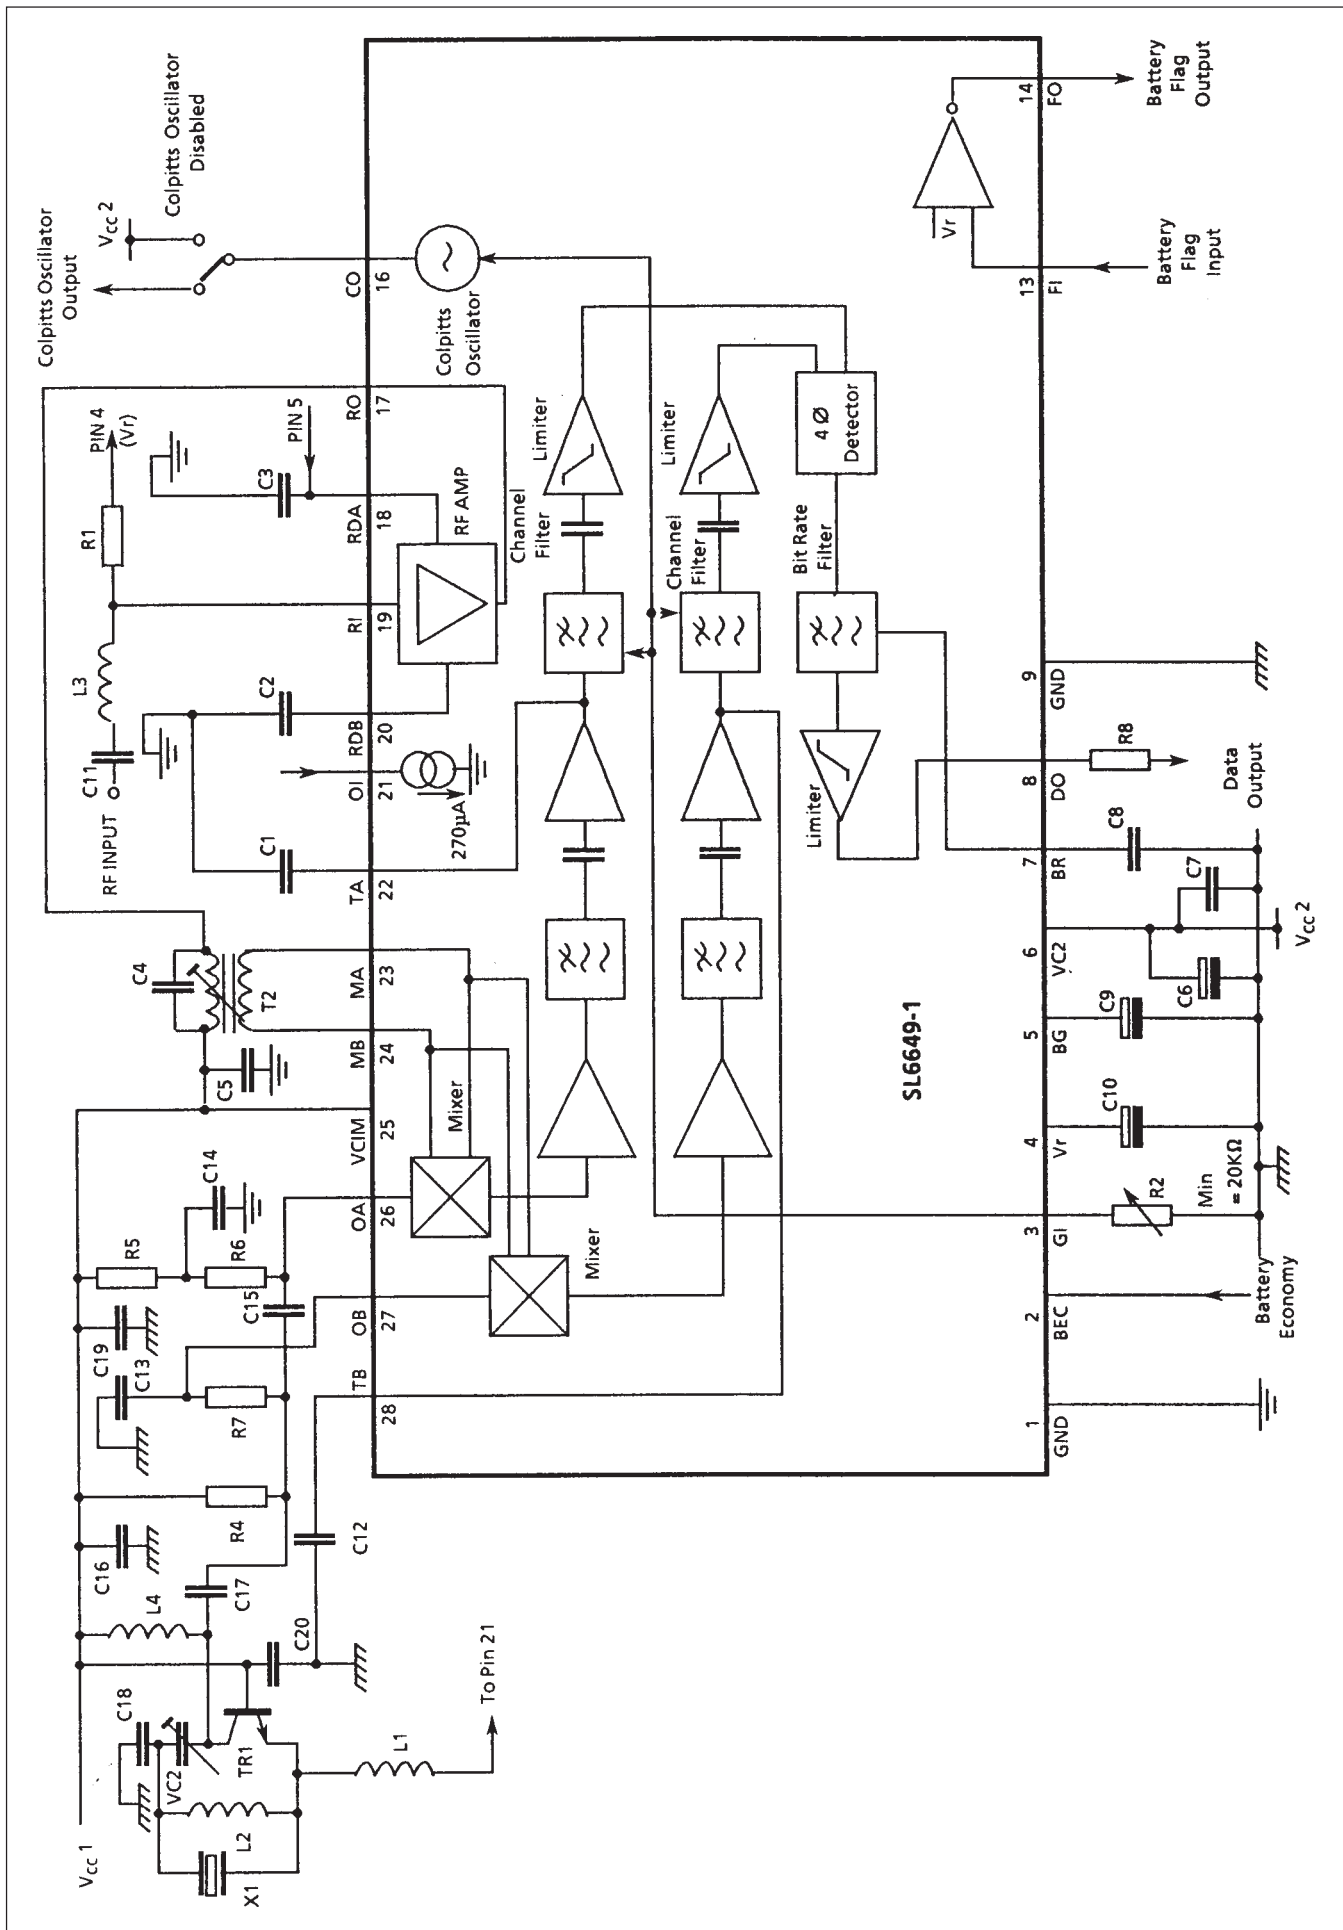

Figure 6: Block Diagram and Applications Circuit (for component values see next page)
**Measurement conditions (unless otherwise stated):** Applications circuit diagram Fig.6;  $V_{CC1} = 1.3\text{V}$ ;  $V_{CC2} = 2.3\text{V}$ ;  $T_{amb} = 25^{\circ}\text{C}$ ; Colpitts oscillator resistor = 270kΩ; mixer input A and B phase balance = 180°; local oscillator input A and B phase balance = 90°. Measurement methods as described by CEPT Res 2 specification.  $F_{IN} = 153\text{MHz}$  (512 baud).
COMPONENTS LIST FOR FIGURE 6
The values given in the components list for figure 6 are appropriate for frequencies nominally around 153MHz. In order to use the receiver at other frequencies it is necessary to change the capacitor C4 which is resonant with the transformer T1, and L2 and L4 in the oscillator circuit.